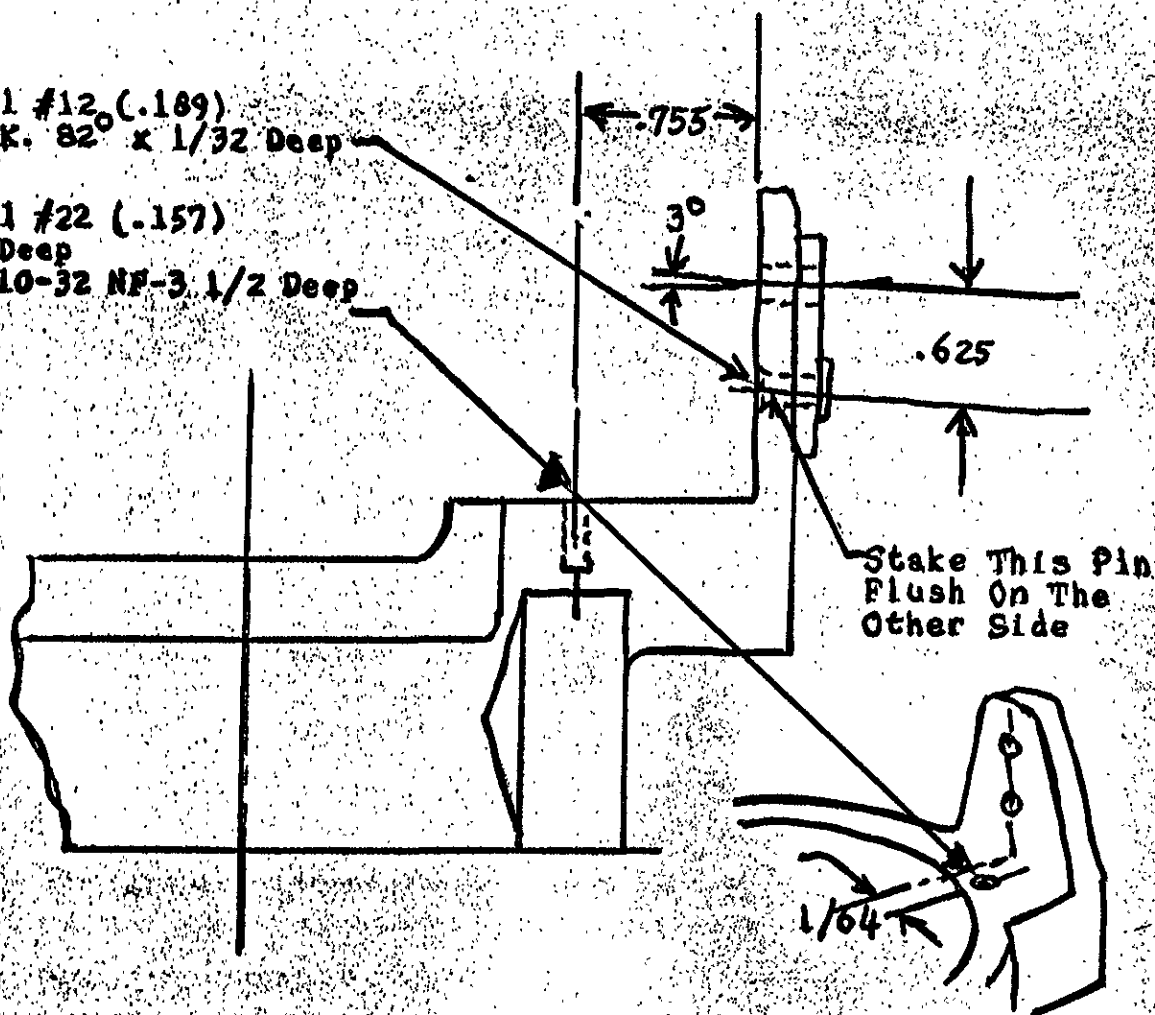

FIGURE 2
1. Rework aft shock absorber collar in accordance with Figure 2. This work can be accomplished with collar in place. This rework consists of removing the inboard ear on the collar. This ear may be removed with a hacksaw and filing smooth. Also note that a #22 (.157) 5/8 inch deep hole must be drilled and tapped #10-32-1/2 inch deep (NF-3) into side of collar.
2. Place Wedge 17F42276-1 on outboard side of ear on collar as shown in Figure 2 so that centers of pilot hole in wedge and hole in ear line up. Using full size #12 (.189) hole in wedge as guide drill #12 (.189) thru ear on collar. Countersink hole on inboard side of ear 82° by 1/32 inch deep as shown. Attach wedge to ear with 17F42277-1 pin, staking pin on inboard side and filing smooth if necessary. Using pilot hole in wedge as guide drill and ream 1/4 (.250) thru wedge and ear normal to outboard surface of wedge.